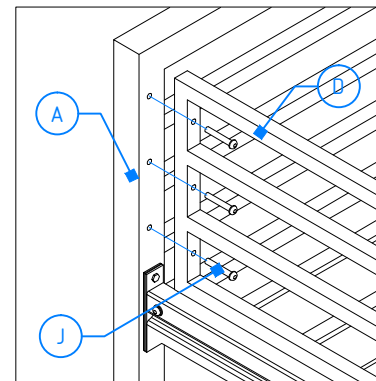

Fig. 3
Position the guardrails (D) by aligning the holes with those of the headboard (A) and footboard (B) securing them with the supplied screws (J). Fig 3.